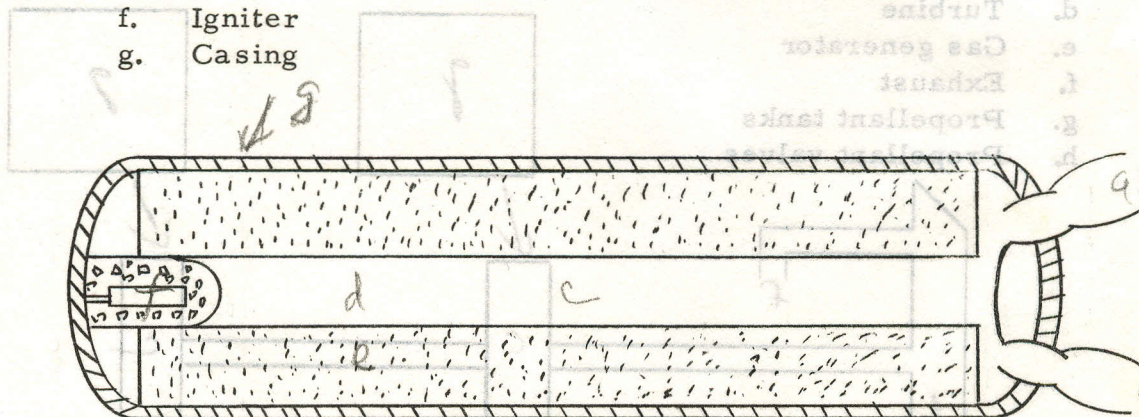

Figure 2
4. Label the Figure 2 to include the following: